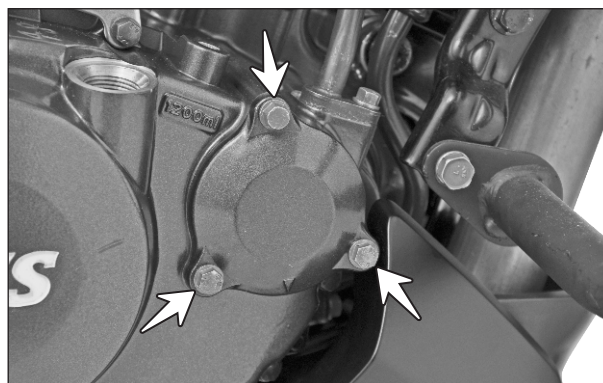

Fig. 2.34
- Loosen and remove the hexagonal flange bolts (M6x16 - 2 nos. and M6x75 - 1 no.). (Fig. 2.34)